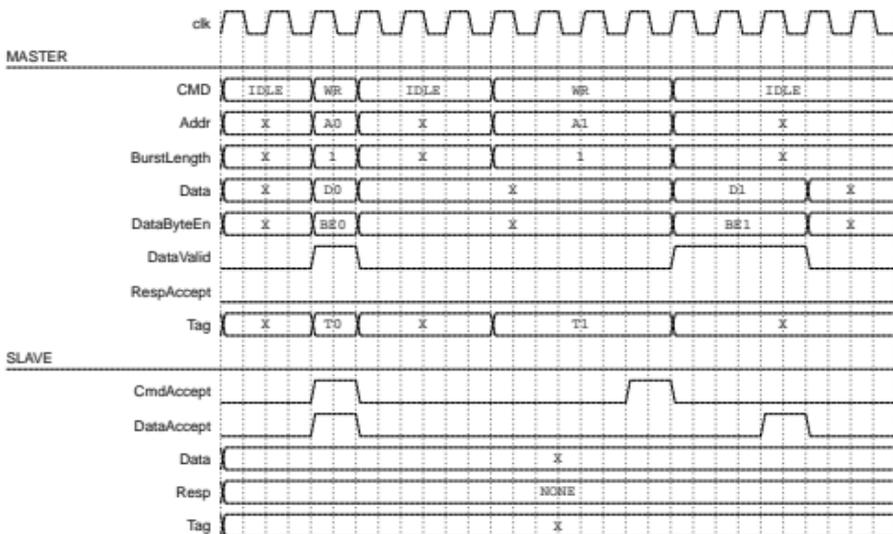
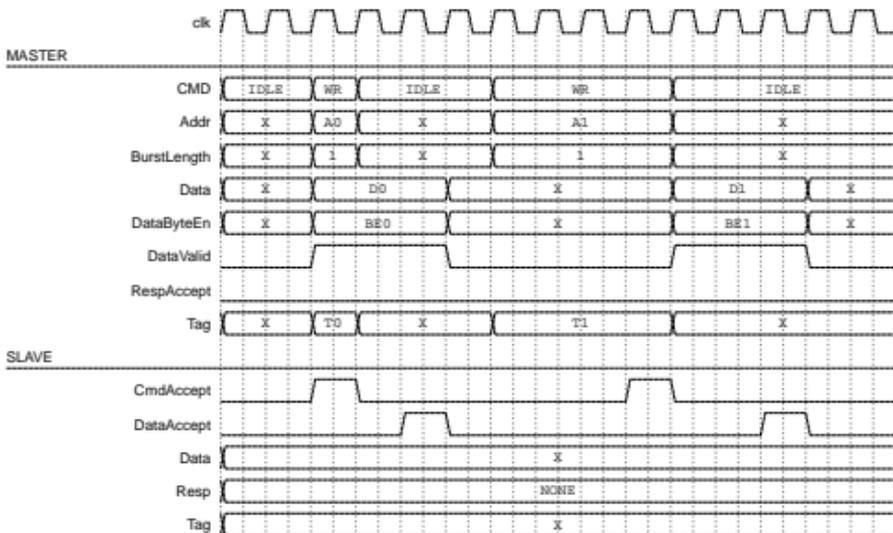

Figure 38: Single Beat Write
Figure 42: OCP Slave Controlled Transfers
**Note:** These waveforms show different transfer sequences, all are valid OCF requests. This is to show the different timing sequences of commands and data transfers. Figure 42 shows how a single OCF slave port handles the two different write requests as shown in Figure 38.
Figure 38 shows 2 single beat write commands. The address, burst length and tag are all presented at the same time as the Cmd is set to Write. The Cmd is acknowledged within 1 clock cycle in the first case and so the Cmd is returned to Idle after a single clock cycle. In the first case, the Data and Byte Enables are asserted and accepted also in the same clock cycle. In the second case, the Write command is not accepted until the 4th cycle after it is asserted (possible due to the Slave being busy). The master in this case also does not assert the Data Valid signal until after the Cmd. The data accept is also not accepted immediately and therefore the Data Valid must remain high until the data beat is accepted. All these cases constitute legal OCP transfers with the protocol.
Figure 42 shows the OCP slave port delaying accepting the write data until it has accepted the write command, notice how the OCP master port must keep the data valid during this time. Compare this to the original sequence in Figure 38.